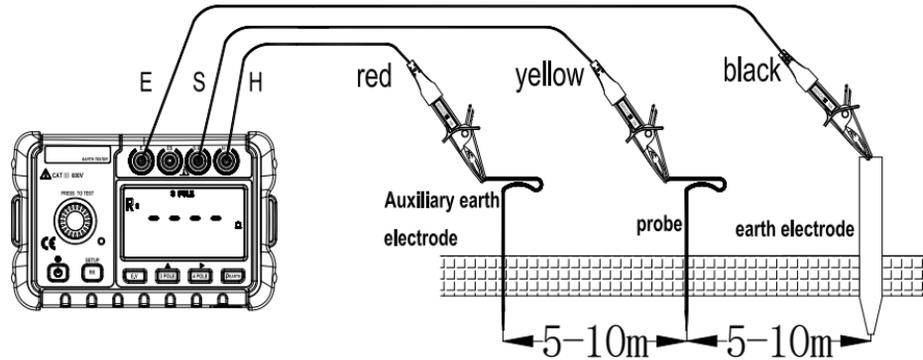

Figure 8
(1) Press **3 POLE** key to select measurement method: 3 Pole (the Main Screen displays 3POLE in the upper part);
(2) Residual resistance of Rk
① Firmly insert each plug of 3 test leads (black, red, blue) to the corresponding terminals E,S and H on the instrument respectively.
② Engage 3 Alligator clips to short-circuit all of them.
③ Save the Rk values with reference to ' the residual resistance on the Test Leads".
(3) Connection of Auxiliary Earth Spikes and Test Leads(See figure 8)
Replace the batteries as follows.(See Figure 8):